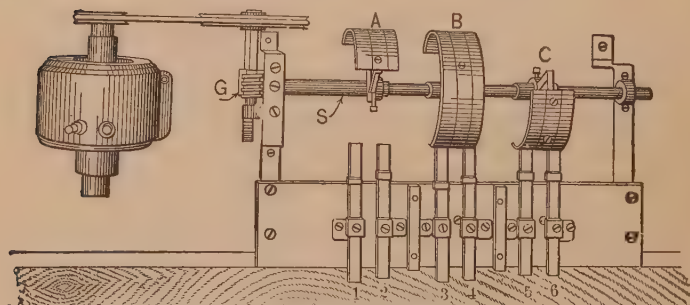

FIG. 215. Sign Flasher.
Fig. 215 shows mechanism for producing so-called **flash-ing signs**. By means of a motor connected through the gears *G*, the shaft *S* is made to turn slowly. The circuit through the lamps in one part of the sign is brought to the brushes (1) and (2). As the shaft turns, the brass or copper arc *A* comes momentarily into contact with these two brushes and this set of lamps flashes up. As soon as the arc *A* leaves these brushes, of course this set of lamps goes out. Similarly, other sets of lamps, connected through brushes (3) and (4) and (5) and (6), are flashed on and off by the arcs *B* and *C*. By changing the relative positions on the shaft of the arcs *A*, *B* and *C*, any desired change in the time and sequence of the flashing of each set of lamps can be made. Thus all the lamps may flash at once and go out at once. One may flash just as another goes out, or they may flash one after the other, but each set remain on until all are lighted, and then all go out at the same instant. These effects are produced merely by varying the lengths or the positions of the arcs on the shaft.
**Prob. 19.** Draw a diagram showing the complete wiring for flashing 3 sets of lamps, one after the other. Use the apparatus shown in Fig. 215.